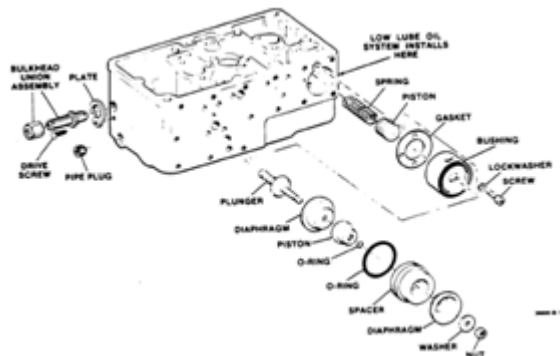

Figure 5-40. Lube Oil Shutdown
3. Install bulkhead union assembly as shown in Figure 5-40.
4. Insert gasket, spring, piston, and bushing into hole for low-oil shutdown (Figure 5-40).
5. Assemble diaphragms, piston, O-ring, spacer, and washer on plunger in order as shown in Figure 5-40.